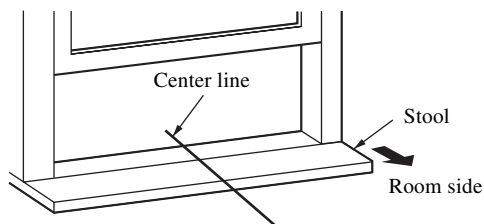

FIG. 3
- Open the window and mark center line on the center of the inner sill as shown in FIG. 3.